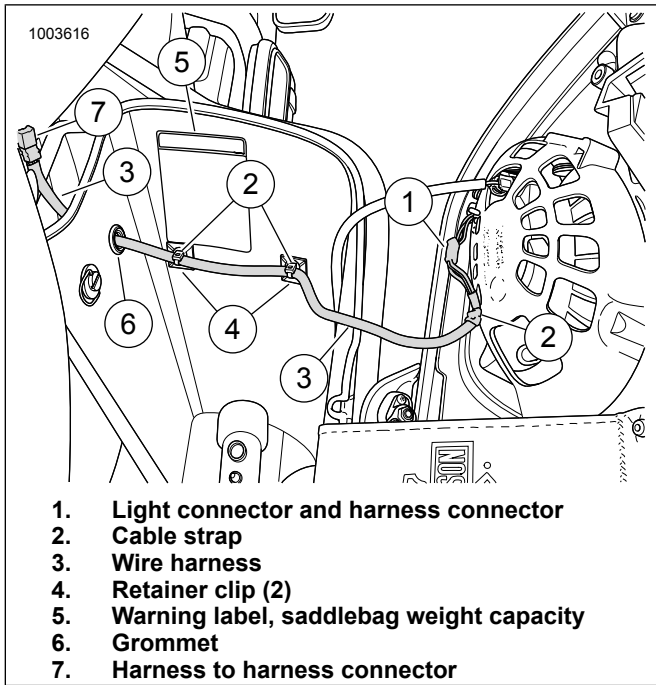

Figure 8. Saddlebag Wire Routing
15. See Figure 8. Slide the grommet about 4-1/2 in (11 cm) from the end of the harness outside the saddlebag. This will leave about 4-1/2 in (11 cm) outside the saddlebag once the grommet is installed.
17. Join connectors (1) from the light engine to the harness. Secure harness to speaker near the connection with cable strap (2)
*Do not obstruct the saddlebag weight capacity warning label (5).*